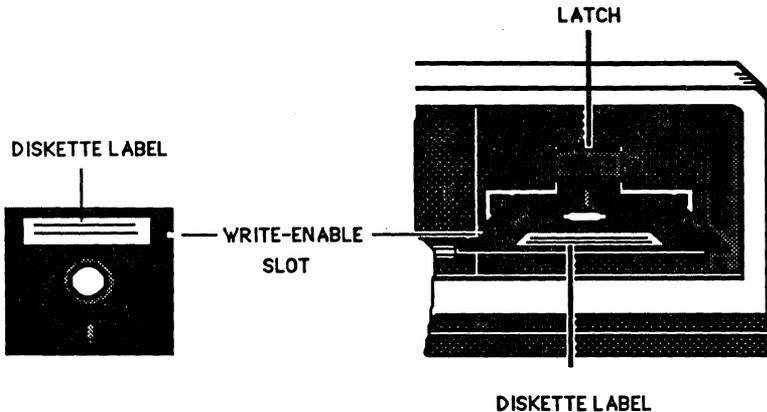

Figure 3-1. Inserting a Flexible Diskette
7. Insert a diskette into the disk drive as shown in Figure 3-1; then close the disk drive latch. (Do not install a write-protect tab onto a 5.25-inch diskette write-enable slot. However, if you are using 8-inch diskettes, you must install a write-enable tab.)